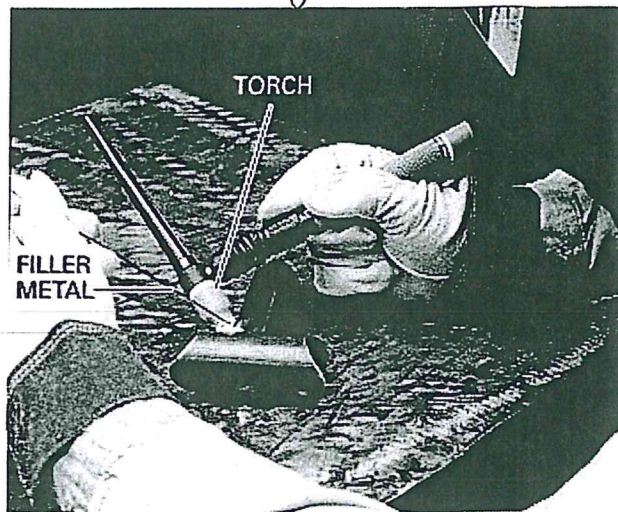

Figure 1 Performing manual GTAW.
**G**as tungsten arc welding (GTAW) is an arc welding process that uses a welding power source to produce an electric arc between a tungsten electrode and the base metal. The arc melts and fuses the base metal to form the weld. A filler metal is typically added. In processes where a filler metal is not added, it is referred to as autogenous welding. In manual welding (Figure 1), the filler metal is usually a handheld metal rod or wire that is fed into the leading edge of the weld metal pool. An inert gas or gas mixture is used to shield the electrode and molten weld metals to prevent oxidation and contamination from the atmosphere. The finished weld has no slag because no flux is used. Also, since no filler metal is transported within the arc, the process produces little or no spatter.